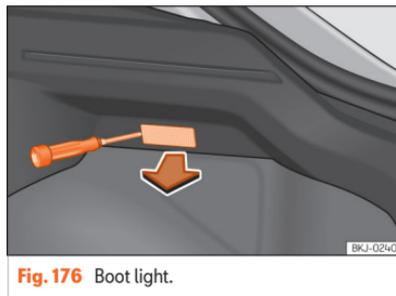

Fig. 176 Boot light.
- Extract the bulb by pressing on its inside edge using the flat side of a screwdriver >>> Fig. 176.